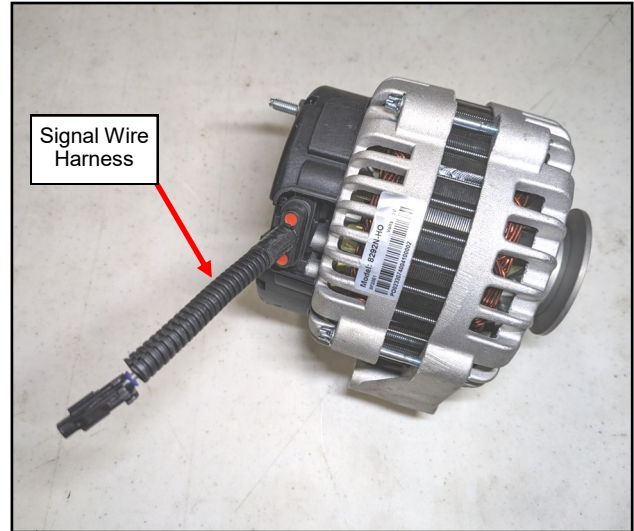

Fig. 3.5 (Connect Signal Wire Harness to Alternator)
- 3.5 Install the alternator signal wire harness to the alternator as shown in figure 3.5.